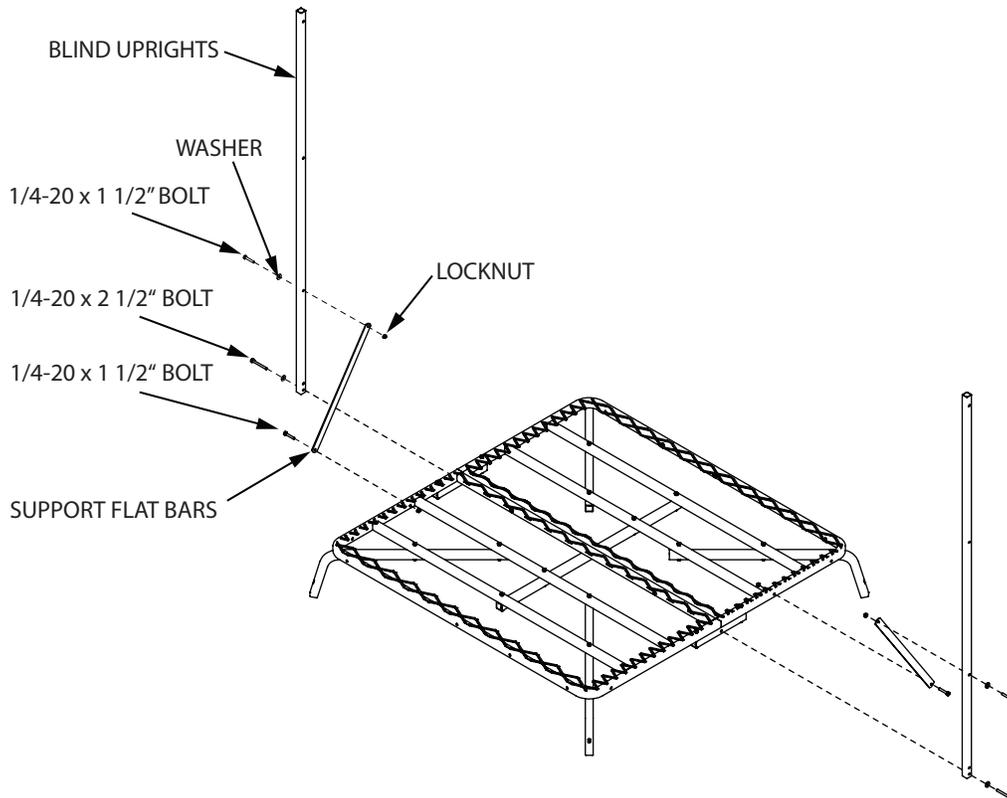

FIGURE 4
6. Attach remaining (2) blind uprights (TWR18) to the outside platform joiners using (2) provided 1/4-20 x 2-1/2" bolts, locknuts and washers. **SEE FIGURE 4.**